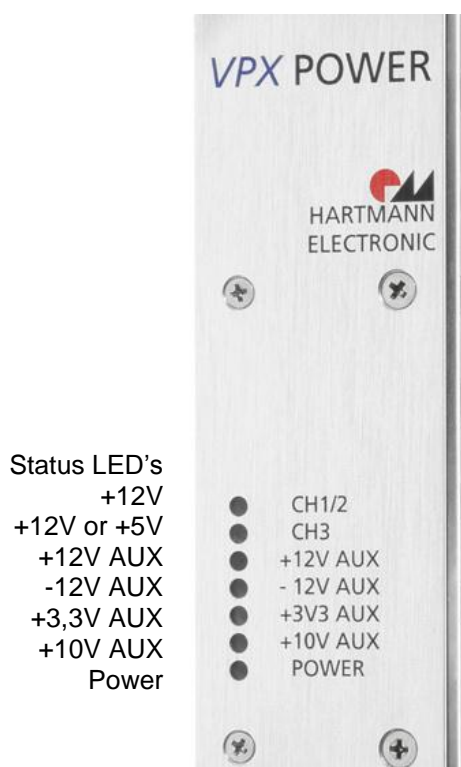

Figure 5 Front panel 6U
*Figure 5 shows an overview over the front panel elements.*